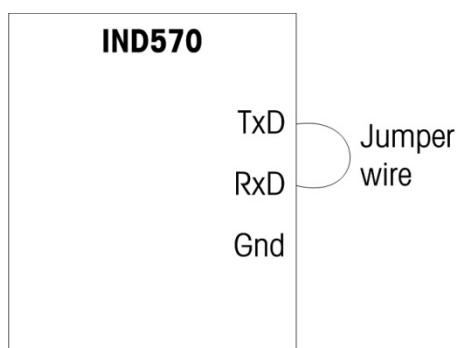

Figure 5-23: Jumper Wire Between Transmit and Receive Terminals
- Place a jumper wire between the transmit and the receive terminals (Figure 5-23) on the port being tested. If the transmit and receive functions of the serial port are functioning correctly, the same data string that is transmitted will display in the receiving field.